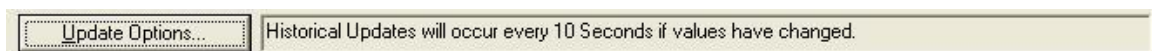

Figure 17
1. When you click the *Update Options* button (Figure 17) on the Field Mappings dialog, the *Update Settings* dialog appears.